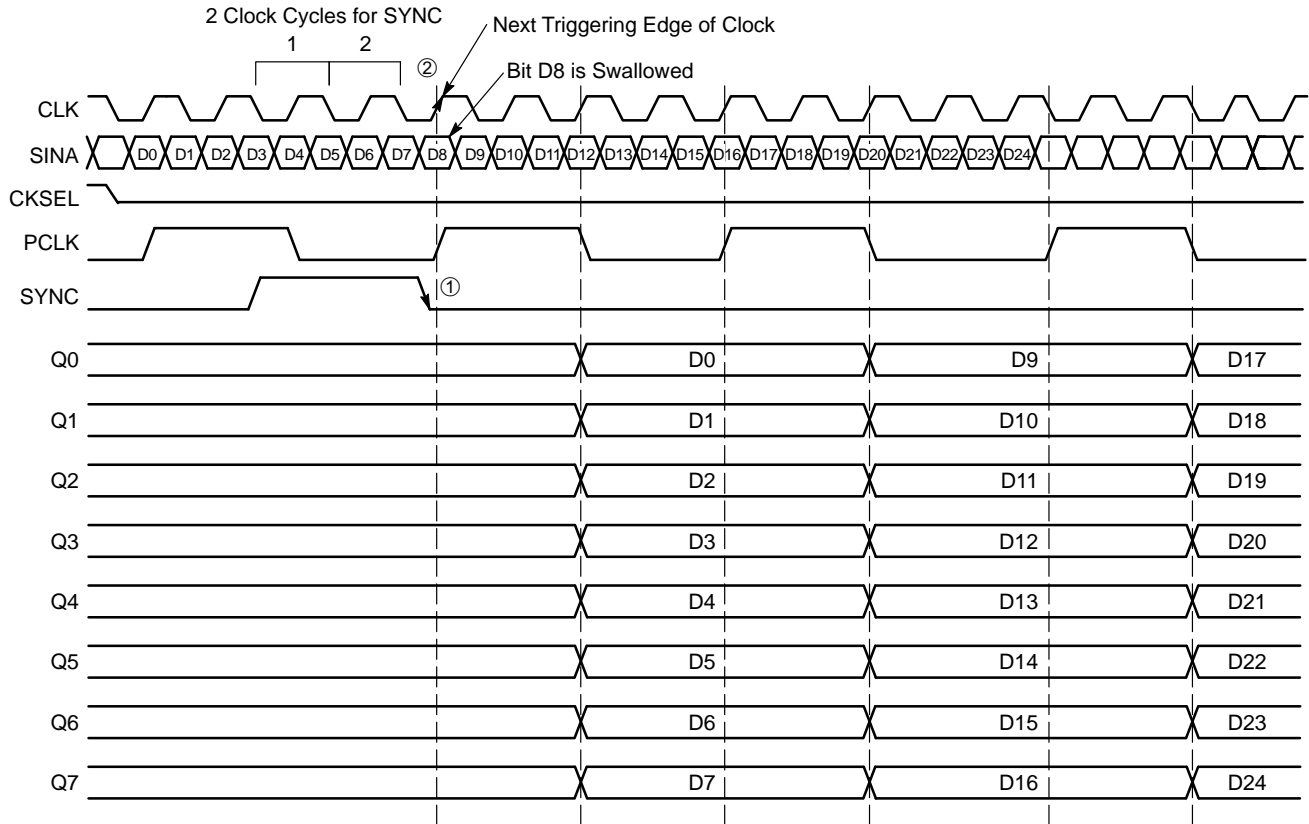
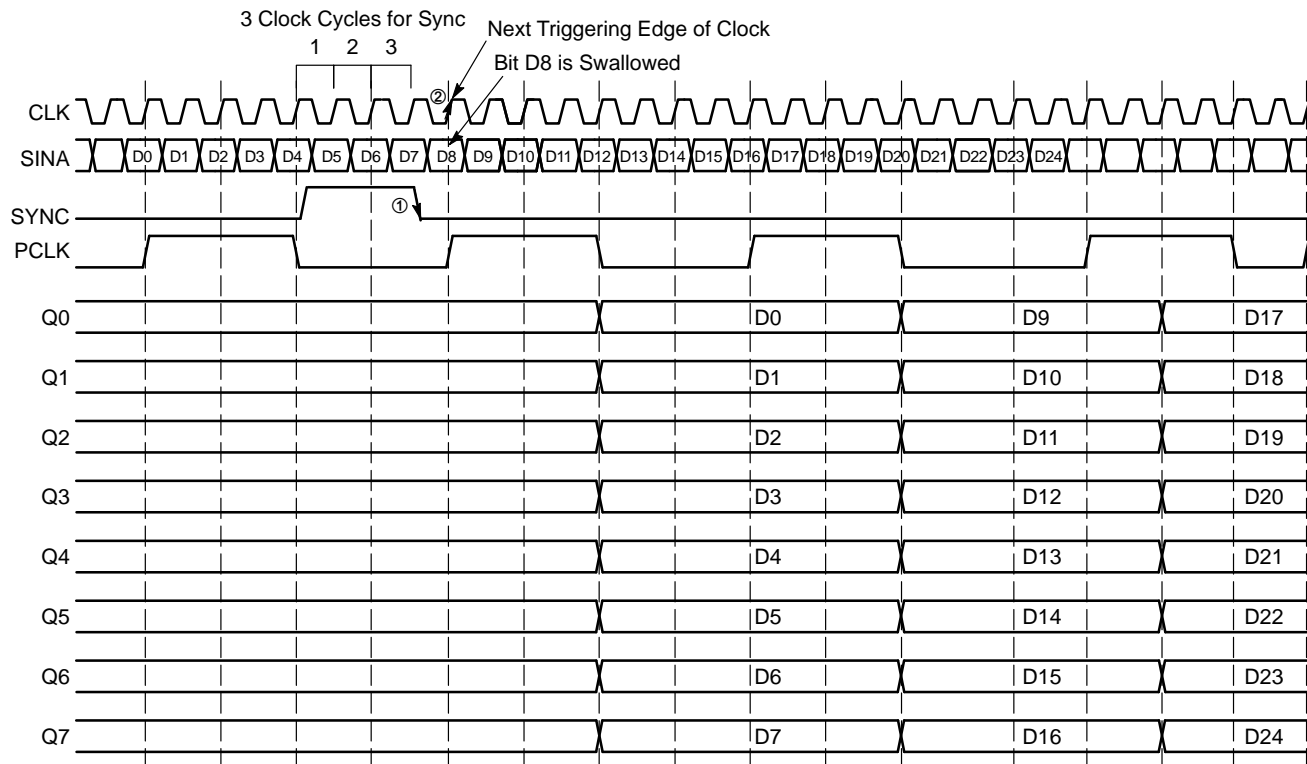

Figure 10. Timing Diagram A. 1:8 Serial to Parallel Conversion with SYNC Pulse at CKSEL LOW
Figure 11. Timing Diagram A. 1:8 Serial to Parallel Conversion with SYNC Pulse at CKSEL HIGH
To allow the user to synchronize the output byte data correctly, the start bit for conversion can be moved using the SYNC input pin (pin 2). Asynchronously asserting the SYNC pin will force the internal clock to swallow a clock pulse, effectively shifting a bit from the Q_n to the Q_{n-1} output as shown in Figure 10 and Figure 11. For CKSEL LOW, a single pulse applied asynchronously for two consecutive
clock cycles shifts the start bit for conversion from Q_n to Q_{n-1} . The bit is swallowed following the two clock cycle pulse width of SYNC^① on the next triggering edge of clock^② (either on the rising or the falling edge of the clock). Each additional shift requires an additional pulse to be applied to the SYNC pin. (See Figure 10)
triggering edge of clock (on the rising edge of the clock only). Each additional shift requires an additional pulse to be applied to the SYNC pin. (See Figure 11)